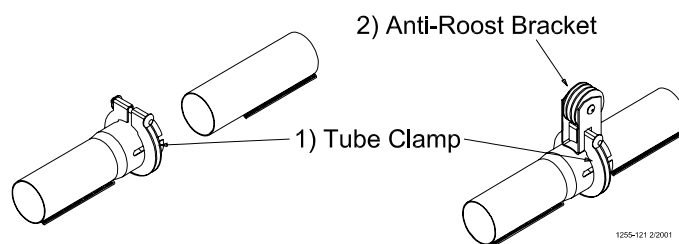

Figure 24. Tube Clamp and Tube Clamp with Anti-Roost Bracket
4. Place a Tube Clamp Assembly or Clamp/Anti-Roost Bracket at each joint. Figure 24 shows the standard Clamp and Clamp/Anti-Roost Bracket.